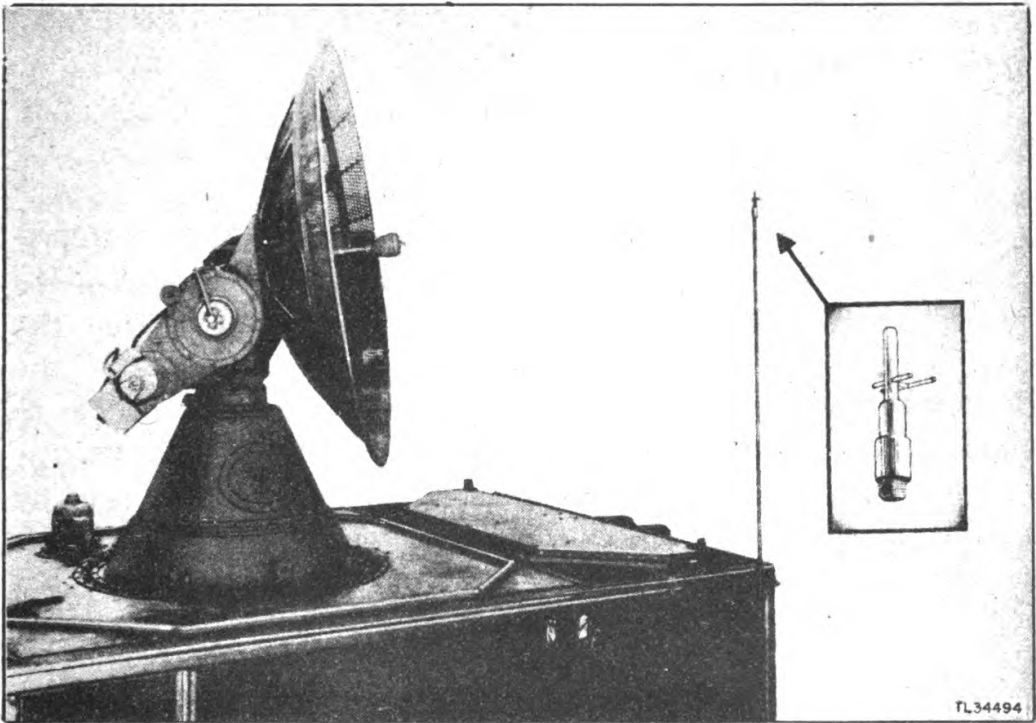

Figure 29. Antenna Assembly AS-23/AP mounted on van.
a. Installation of Antenna Assembly AS-23/AP (fig. 29).
- (1) Mount the antenna assembly on its support rod.
- (2) Mount the rod and antenna on the bracket on the left wall near the top rear corner, outside of the trailer, with the reflector rod (the T-section fastened to the outer conductor) away from the radar antenna. There must be no conducting material between the pick-up antenna and the radar antenna.
- (3) Turn the radar antenna until it directly faces the pick-up antenna.
- (4) With the SPINNER MOTOR switch OFF, rotate the radar antenna by hand until the dipole inside is horizontal. The unpainted section of the plastic cap around the dipole should be uppermost, and inspection through this clear section should reveal the dipole in a horizontal plane. When the set-up is completed, the radar antenna dipole and the pick-up antenna dipole should be exactly parallel.